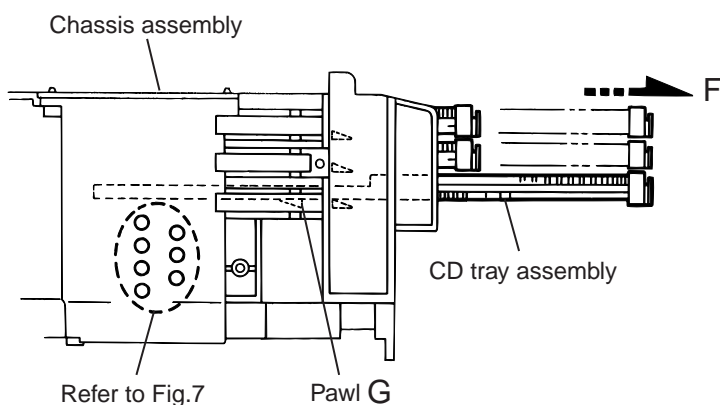

Fig.6
12. Make sure that the driver unit elevator is positioned as shown in Fig.6 from the second or fifth hole on the left side face of the CD changer mechanism assembly.
14. Pull out all of the three stages of CD tray assembly in the arrow direction "F" until these stages stop (See Fig.6).